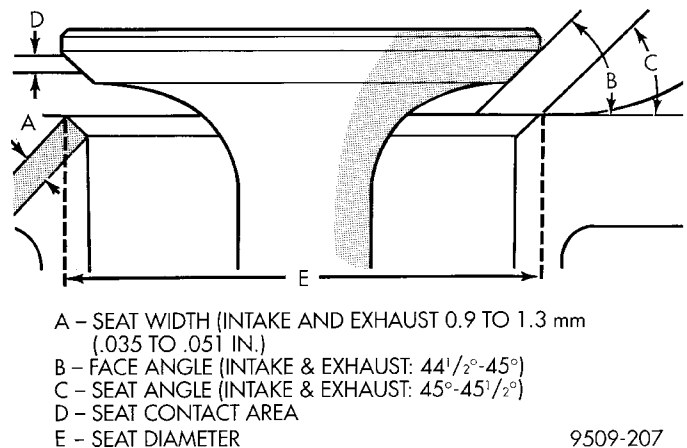

Fig. 97 Refacing Valve Seats
(5) Inspect the valve seat with Prussian blue to determine where the valve contacts the seat. To do this, coat valve seat **LIGHTLY** with Prussian blue then set valve in place. Rotate the valve with light pressure. If the blue is transferred to the center of valve face, contact is satisfactory. If the blue is transferred to top edge of the valve face, lower valve seat with a 15 degrees stone. If the blue is transferred to the bottom edge of valve face raise valve seat with a 65 degrees stone.
(6) Valve seats which are worn or burned can be reworked, provided that correct angle and seat width are maintained. The intake valve seat must be serviced when the valve seat width is 2.0 mm (0.079 in.) or greater. The exhaust valve seat must be serviced when the valve seat width is 2.5 mm (0.098 in.) or greater. Otherwise the cylinder head must be replaced.
(7) When seat is properly positioned the width of intake and exhaust seats should be 0.75 to 1.25 mm (0.030 to 0.049 in.) (Fig. 97).